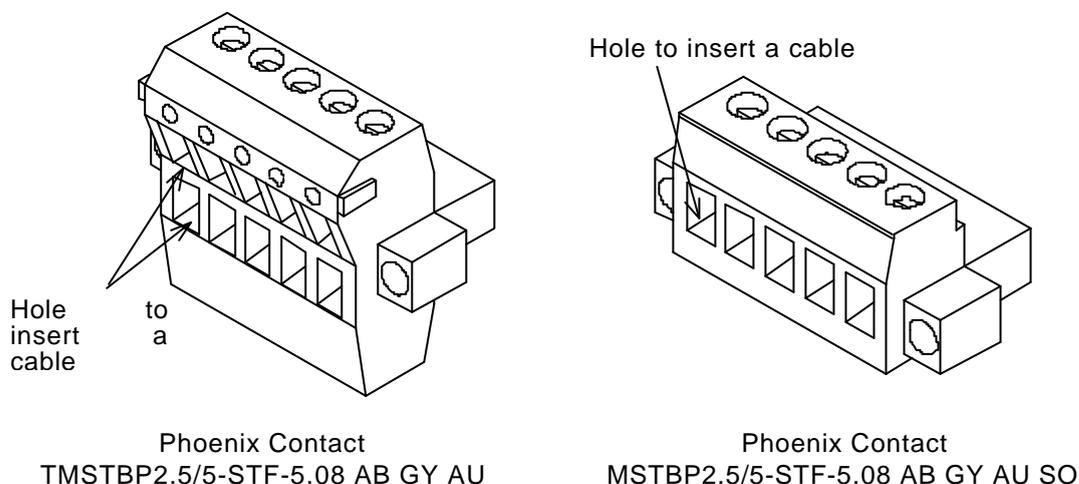
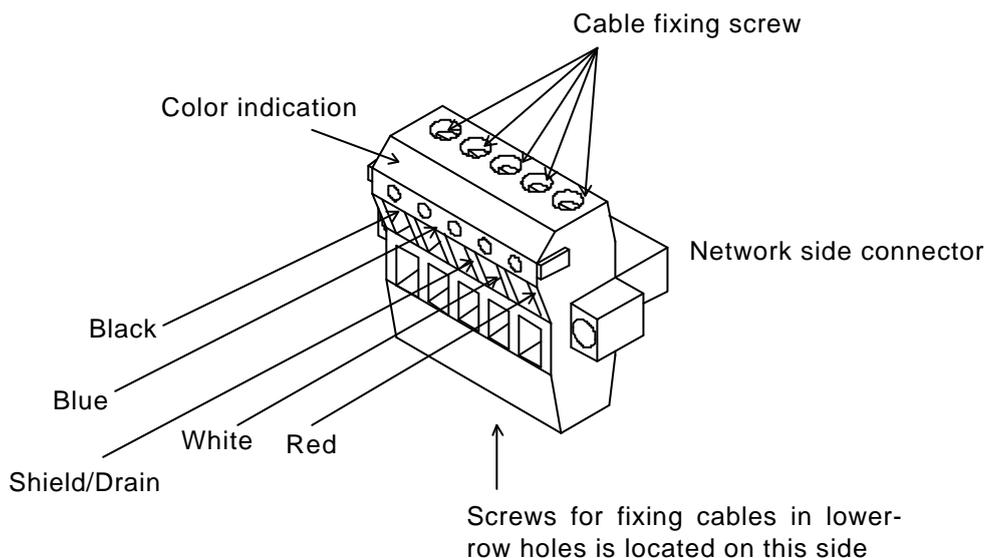

Figure 3.5 Network Side Connectors Attached to the DN211
Figure 3.7 Connecting Cables with Network Side Connector
The DN211 supports the plug connection connector(open type). It has two types of network side connectors attached, as shown in Figure 3.5. Follow the order stated below to connect the DeviceNet cable to the DN211.
This section describes how to connect DeviceNet cables to network side connectors by using Figure 3.5 at the left side (upper and lower rows with holes for inserting cables) on the preceding page. As shown in Figure 3.7, loosen screws on the cable connectors beforehand. Match the colors of the cable coatings with those of the network side connector before inserting the cables into the connectors. Tighten the screws for fixing cables.
5. When you use the network side connector that has the upper and lower rows with holes for cables (at the left-side Figure 3.5), the connector protrudes from the left-side DN211 about 5mm. When you attach or detach the left-side module of DN211, you must detach the connector from DN211.